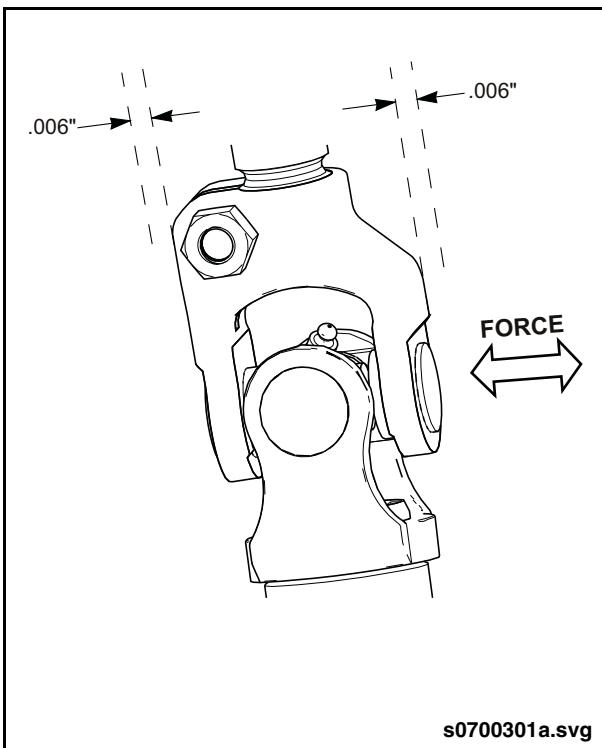

Fig. PM-16: Steering Driveshaft U-Joint Inspection
- a. Restrain the end yoke from moving and apply lateral side to side force on each U-joint. Note the total back and forth movement of the U-joint cross within the bearing cups. Maximum allowable end play is 0.012" (0.30 mm). km). See "Fig. PM-16: Steering Driveshaft U-Joint Inspection" on page 44.